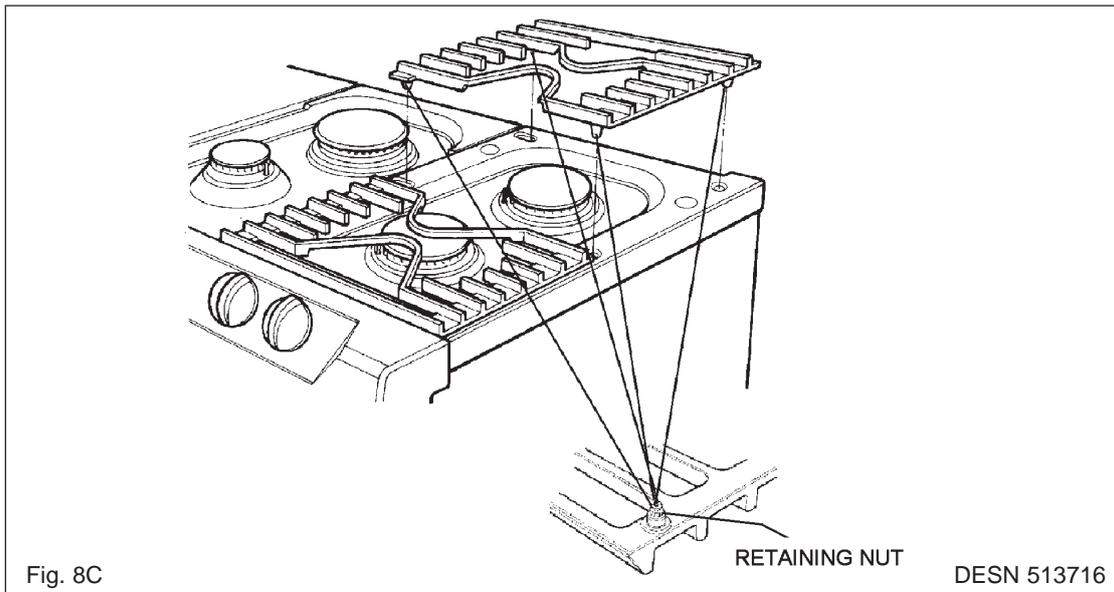

Fig. 8C
1. Loosen retaining nut using 8mm socket (See Fig. 8C).